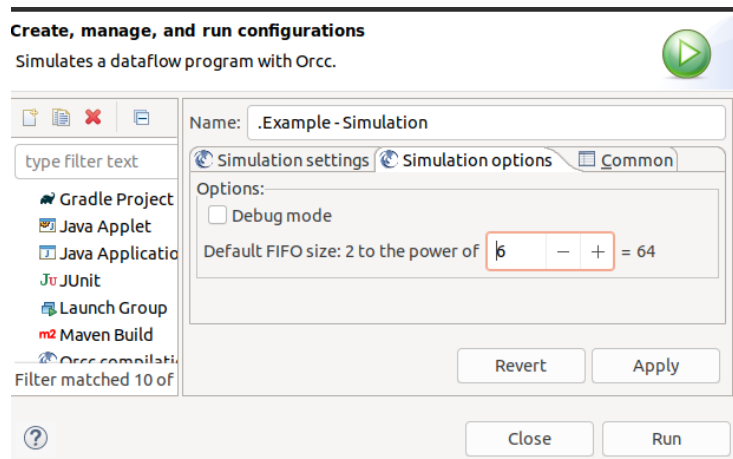

Figure 8.3: Reducing FIFO width.
5. By default, the FIFO width in ORCC is set to 512-bytes (the minimum page-size desktop PC OS). However, this value may be too large for the targeted FPGA platform due to limited memory resources. You can set a smaller value for FIFO width in Simulation Options as shown in Figure 8.3.